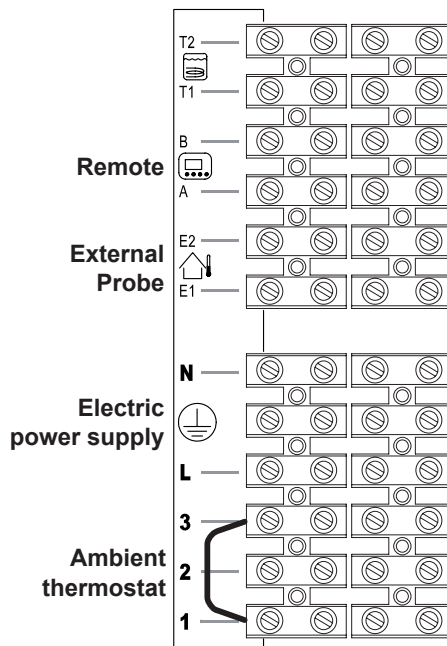

Fig. 6.30
To remotely connect utilise the terminals indicated in Fig. 6.30.
Use the clamps indicated in Fig. 6.30 to connect the external probe.
Use the clamps indicated in Fig. 6.30 to connect the remote.
**Do not remove the electric jumper connected on the ambient thermostat terminal block between "1 and 3" Fig. 6.30.**